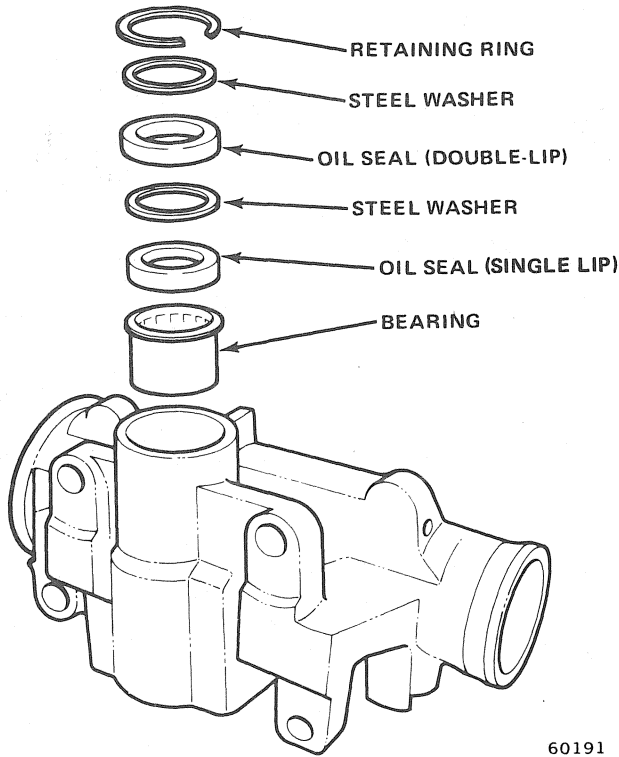

Fig. 2L-17 Pitman Shaft Bearing and Seals
- (1) Remove pitman shaft seal retaining ring using Snap Ring Pliers J-4245.
- (2) Remove steel washer (fig. 2L-17).
(3) Remove backup washer and double lip seal (fig.2L-17). Use screwdriver to pry seal out of bore. Discard seal.
(4) Remove backup washer and single lip seal (fig. 2L-17). Use screwdriver to pry seal out of bore. Discard seal. Do not damage seal bore when removing washers and seals.